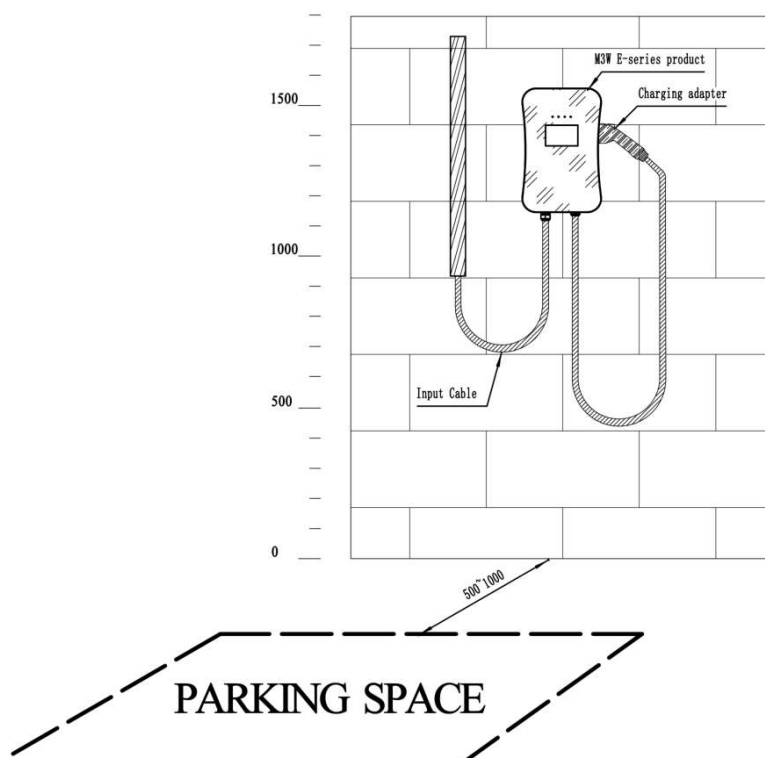

Fig. 5-1 Mounted the M3W EN-series product on the wall
- e) Mounted the M3W EN-series product on the wall is shown in Fig. 5-1.